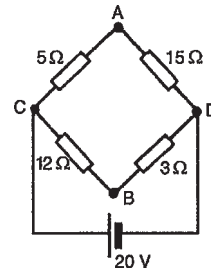

Figure 15.34
- (vii) To find the voltage across AB in Fig. 15.34: since the 20V supply is across the 5Ω and 15Ω resistors in series then, by voltage division, the voltage drop across AC ,